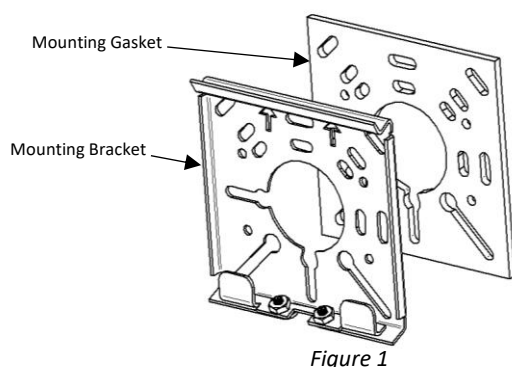

Figure 1
1. Place the mounting gasket onto the back of the mounting bracket as shown below (Figure 1) if not already done so.
1. Place the mounting gasket onto the back of the mounting bracket as shown above (Figure 1) if not already done so.